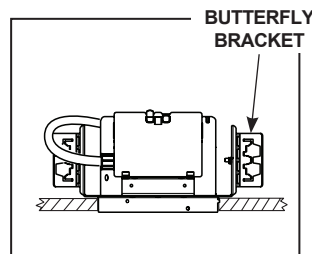

Figure 2
**Step 1.** Install housing into ceiling cavity by inserting 1/2" EMT, 3/4" or 1-1/2" C-Channel, linear flat bars or Real Nail 3 bar hangers into butterfly style mounting brackets (Fig. 2).